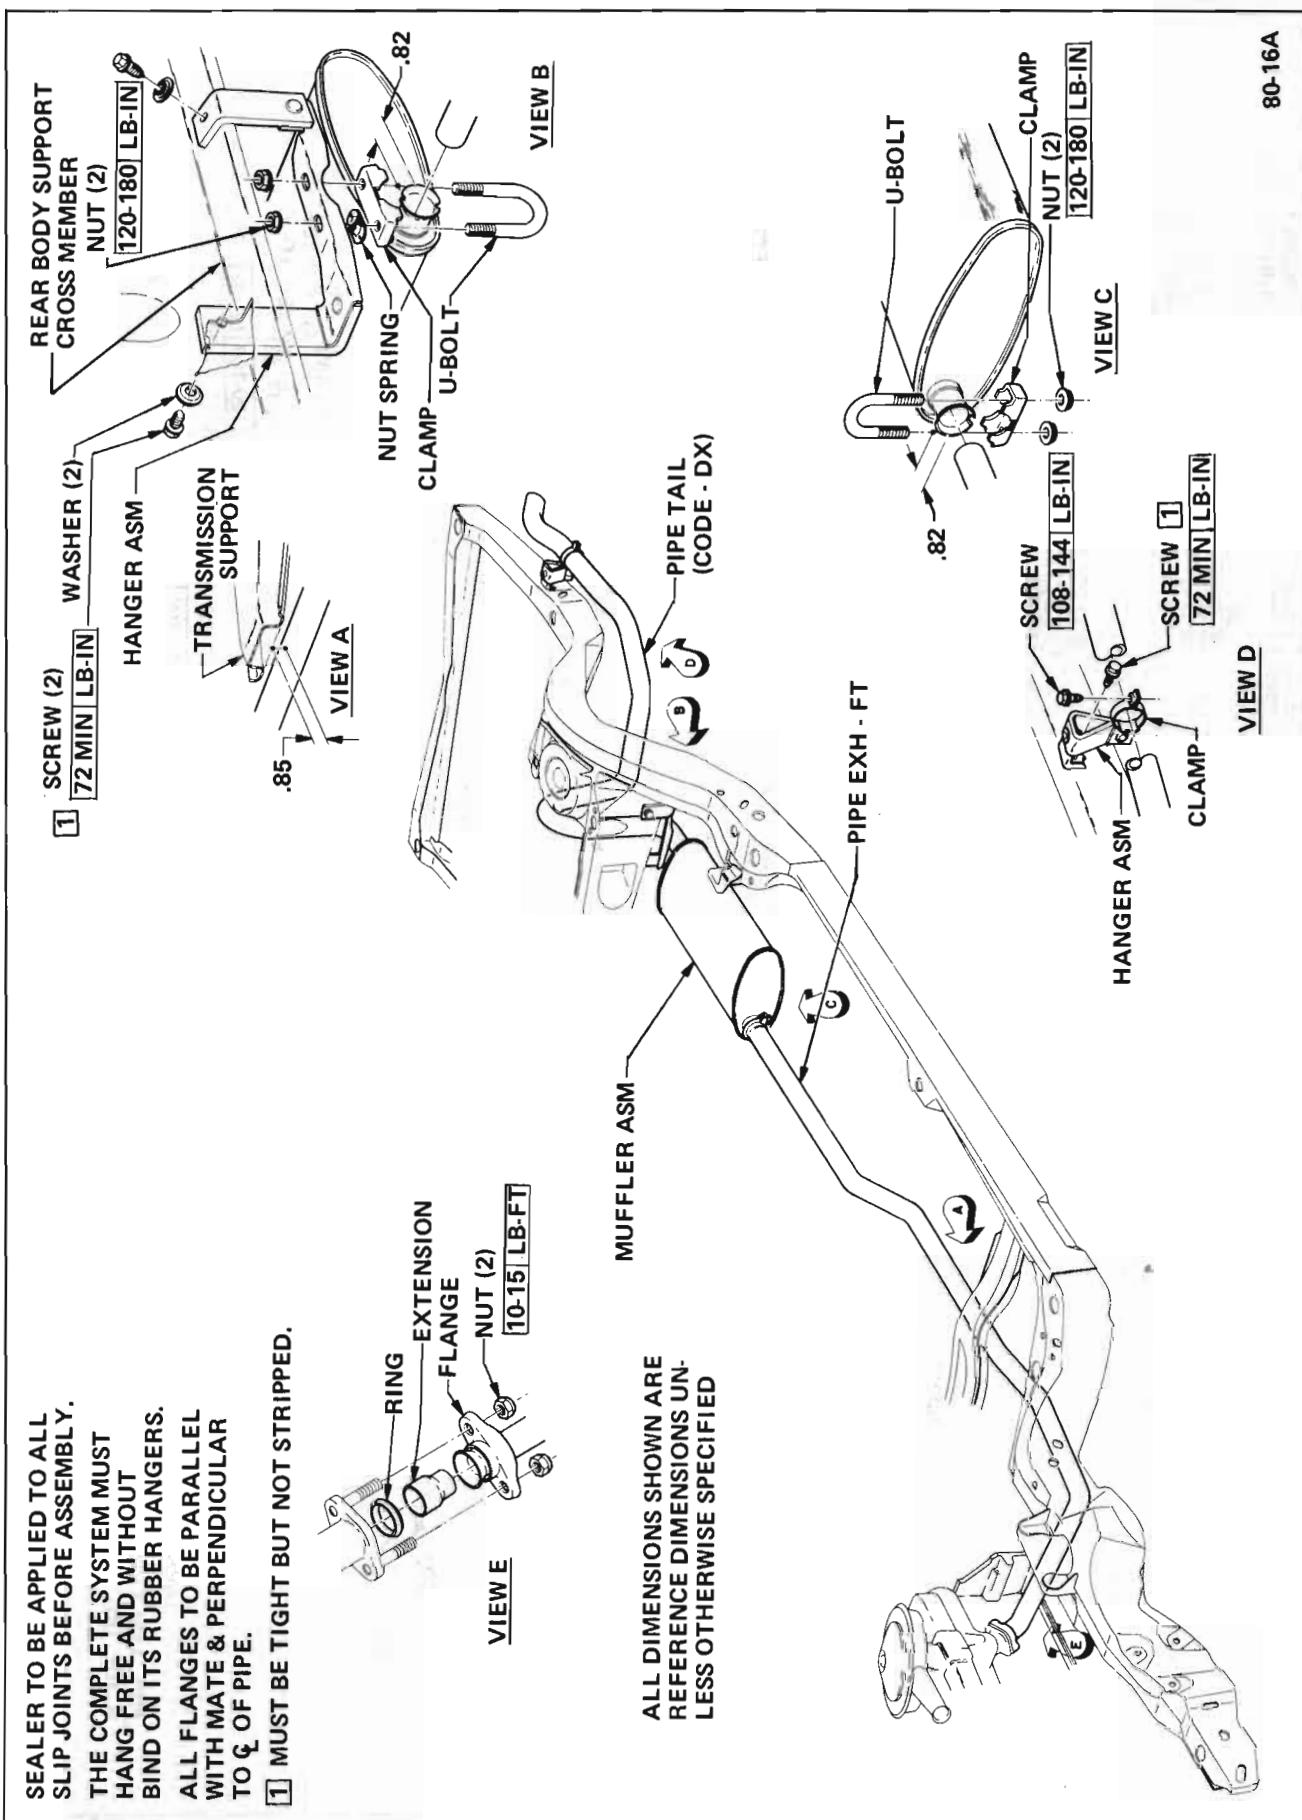

Figure 80-16 Exhaust System L-6 Skylark
9. Align muffler and exhaust pipe. See illustration that applies--Figures 80-16 through 80-24.
7. Align resonator assembly. See illustration that applies- -Figures 80-16 through 80-24.
6. Align exhaust pipe. See illustration that applies- -Figures 80-16 through 80-24.
7. Align tail pipe. See Figures 80-16 through 80- 24.